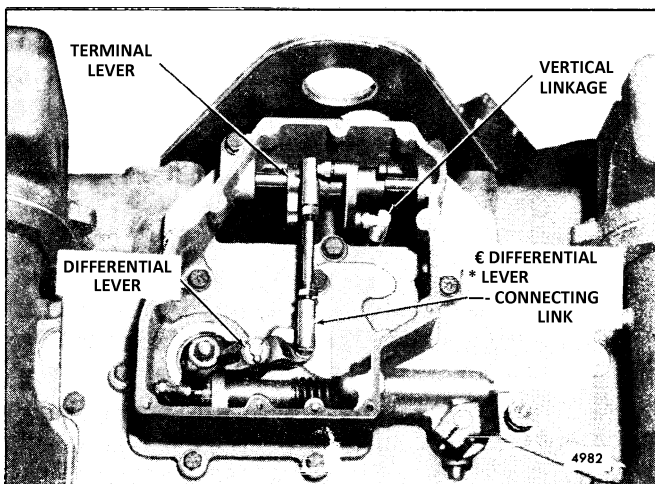

Fig. 3 - Governor Operating Linkage (Former)
5. On former governors, disconnect the vertical linkage from the terminal shaft lever (Fig. 3).